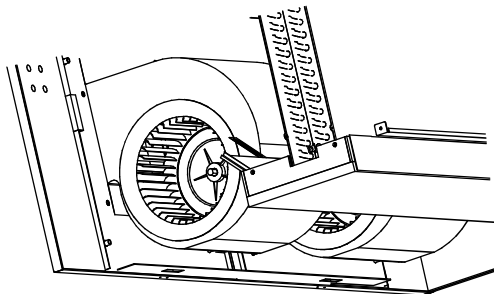
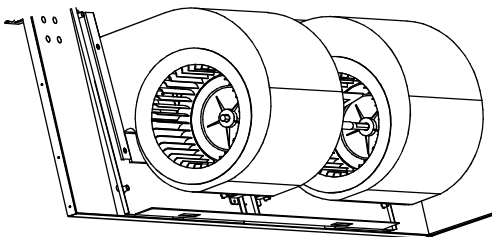
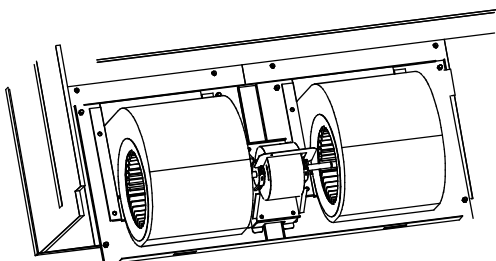

Fig.9-4
Fig.9-5
Fig.9-6
- 5) Support the bottom of the fan motor assembly by hand, then push it up. It needs two persons to do. When the hole on clapboard of fan assembly is higher than the pin on front board (Fig.9-4), push the fan motor assembly back about 21mm (Fig.9-5) to make the hole separate from the pin. Hold the assembly and slowly draw it down along the guide rail (Fig.9-6), and then the assembly can be taken out for maintenance and repairing.